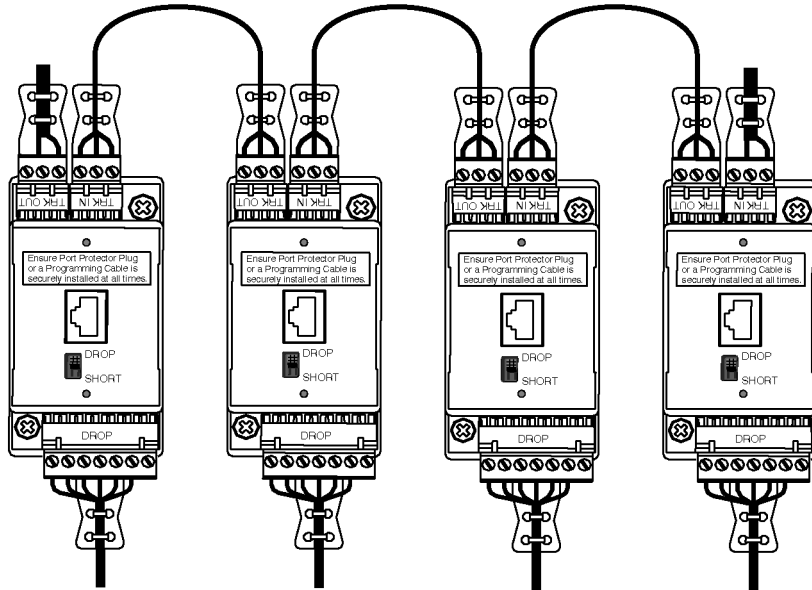

Figure 1 — Terminal Locations
Figure 1 shows the terminal locations.
3	Connect the Terminators (Refer to Figure 1). Connect terminators (Schneider Automation part 990 NAD 230 22) at end sites, to pin 1 (WH) and pin 2 (BL).